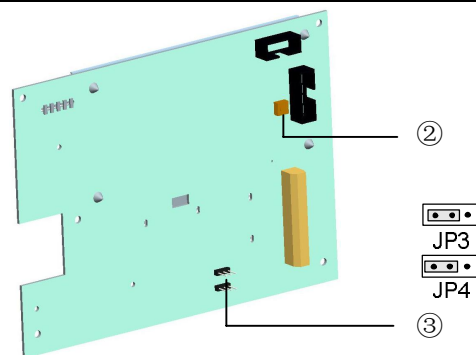
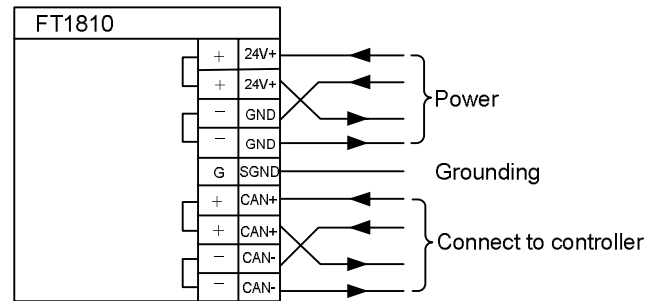

Fig. 3 Back view of PCB board
Fig. 5 Connection
3. Jumper: the 120Ω EOL resistor is connected when jumper switch is set as shown in the Fig. 3
5. Connect cables to terminals referring to the connection diagram (Fig. 5). A 120Ω EOL resistor must be connected when the display is at the end of FR18-BUS. Refer to internal jumper of FT1810 (Fig. 3).